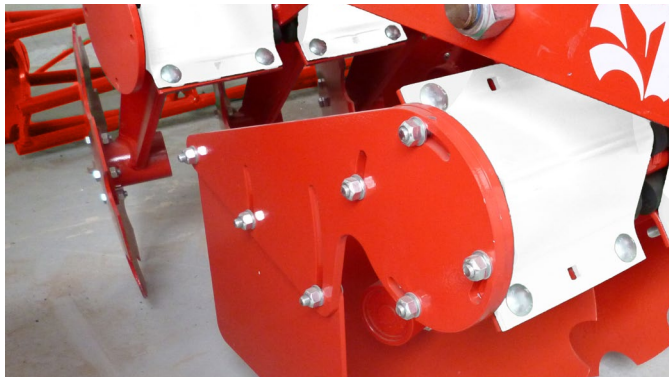

Fig. 8
The arms' working depth is regulated through a paralelogram system of hydraulic activation controlled through the cylinders B (Fig.8).
Said working depth can be consulted at any moment on the rule C (Fig.8), visible from the tractor.
1. Sideplate (Fig.8)